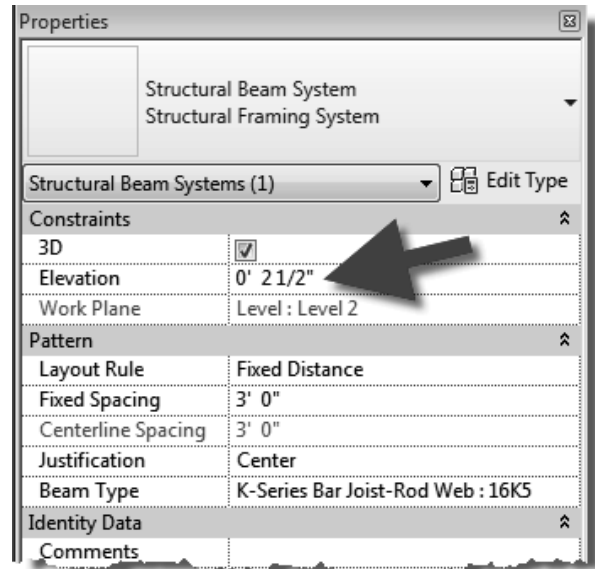

FIGURE 7-4.8 Instance properties for Beam System
33. Set the *Elevation* to 2 ½" and click **Apply** (Figure 7-4.8).
- f. See Figure 7-4.8.